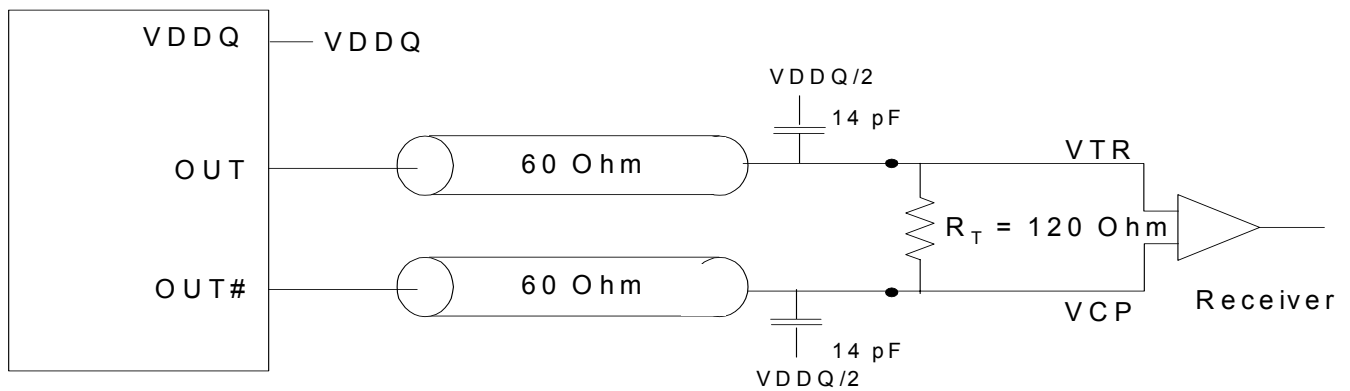

Figure 6. Differential Signal Using Direct Termination Resistor
- Differential input signal voltage specifies the differential voltage V_{TR}–V_{CPI} required for switching, where V_{TR} is the true input level and V_{CPI} is the complementary input level. See Figure 6.
- For load conditions see Figure 6.
- The value of V_{OC} is expected to be (V_{TR} + V_{CPI})/2. In case of each clock directly terminated by a 120Ω resistor. See Figure 6.
- All outputs switching load with 14 pF in 60Ω environment. See Figure 6.